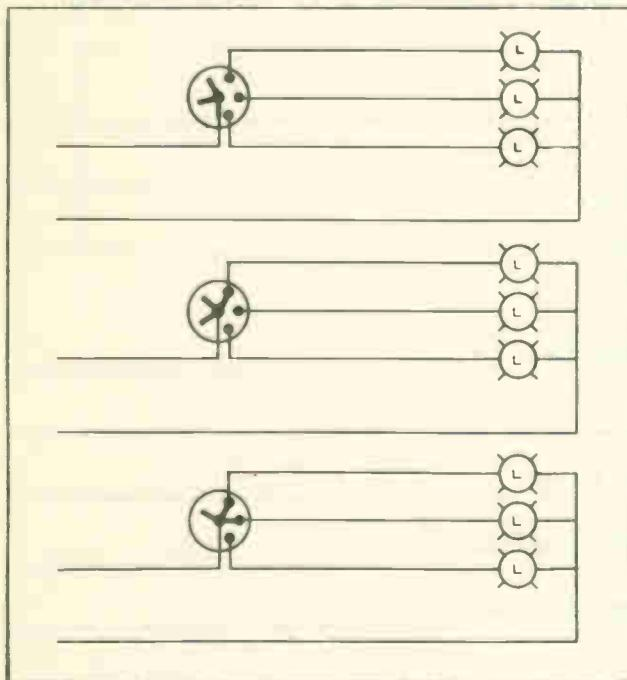
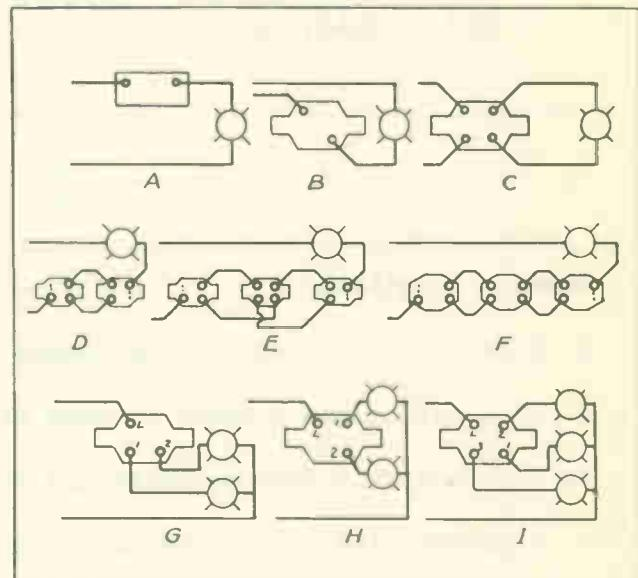

Fig. 6
Fig. 8
When two or more four-way switches are used together or in conjunction with a three-way switch, the dummies or travellers, (the two wires leaving the switch), are always connected to opposite terminals, never to adjacent terminals. Fig. 5. The foregoing statement applies to surface-type switches; with some flush-type switches it is unnecessary to cross the wires, because the cross over is made inside the switch, Figs. 8, E and F.
3. Connections - Fig. 6 shows the manner in which an electrolier switch can be used to turn on one or more lights at a time. Push-button and toggle-type electroliers are shown in G, H, and I of Fig. 8.